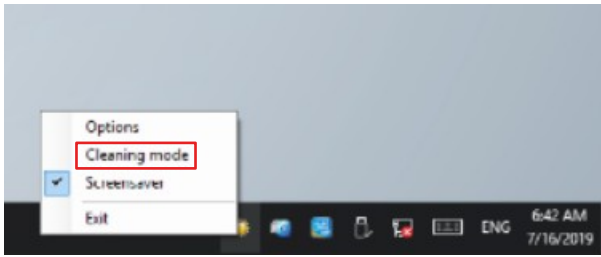

Fig. 8: CP69xx\_Select Cleaning Mode
3. Select the "Cleaning Mode" (see Fig. 8).